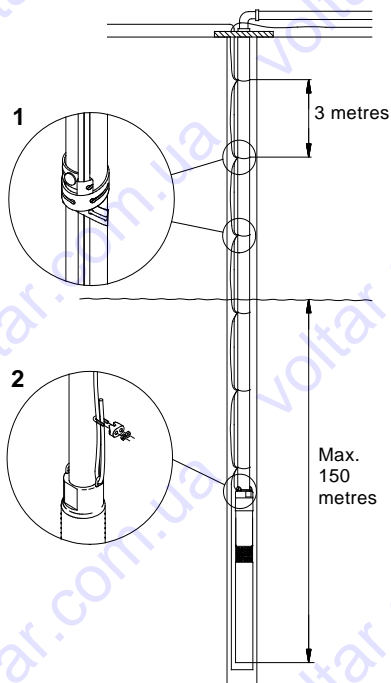

Fig. 11
Figure 11 shows a pump installation with indication of:
See fig. 11.
Maximum installation depth below the static water level: 150 metres. See fig. 11.
It is recommended to secure the pump by an unloaded straining wire. See fig. 11, pos. 2.